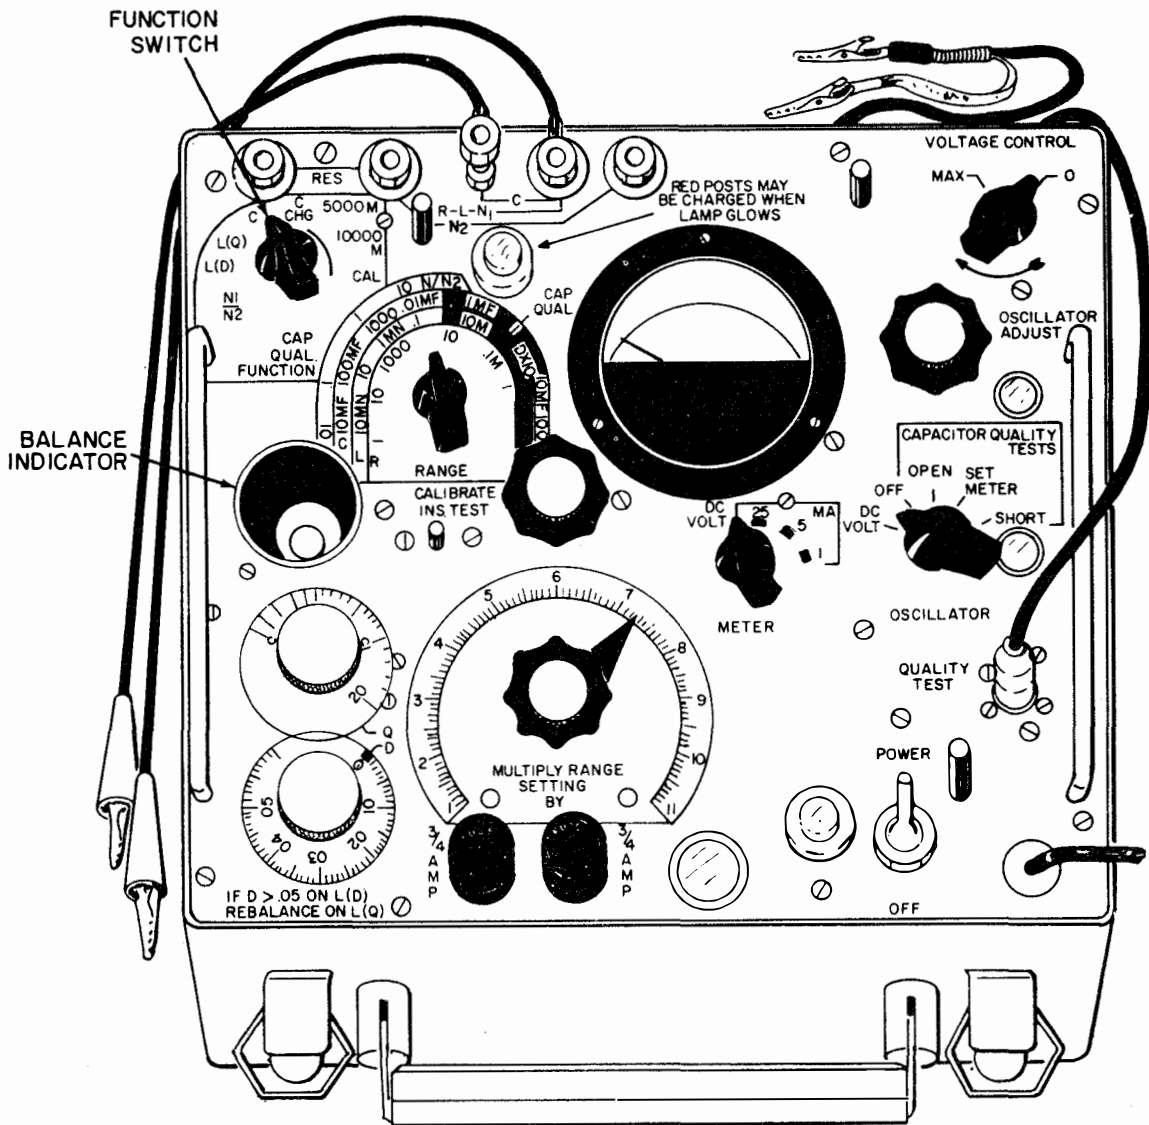

Figure 2-12.—Capacitance-Inductance-Resistance Bridge (ZM-11A/U).
The capacitance-inductance-resistance bridge shown in figure 2-12 is used to measure C, L, and R values in addition to special tests, such as the turns ratio of transformers and capacitor quality tests. This instrument is self-contained except for a source of line power, and has its own source of 1000-Hz bridge current with a sensitive bridge balance indicator, and an adjustable source of direct current for electrolytic capacitor and resistance testing. The bridge also contains a meter with suitable ranges for leakage current tests on electrolytic capacitors.
To make resistance measurements with the bridge tester (fig. 2-12), set the FUNCTION switch to the resistance (5000m or 10000m) position and connect the resistor to be measured to the R posts (second and fourth posts from the left, fig. 2-12). Select an appropriate range
Connect the capacitor to be tested to the C posts (third and fourth from the left, fig. 2-12) and set the FUNCTION switch to position C. Select a suitable range on the C scale of the RANGE switch. Obtain a balance by turning the MULTIPLY BY dial and simultaneously adjusting the D dial. When balance is achieved, multiply the range setting by the MULTIPLY BY dial reading to obtain the unknown capacitance. The D dial reading indicates the loss factor of the capacitor. Multiply the D dial reading by 10 when using any range in the colored section of the RANGE Switch.
Connect the inductor to be measured to the L posts (second and fourth posts from the left, fig. 2-12), and set the FUNCTION switch to the L(D) or L(Q) position, depending upon the probable loss of the coil to be tested. Usually coils used in the af ranges will fall within the loss range of L(D), while RF and IF coils will fall within the loss range of L(Q).